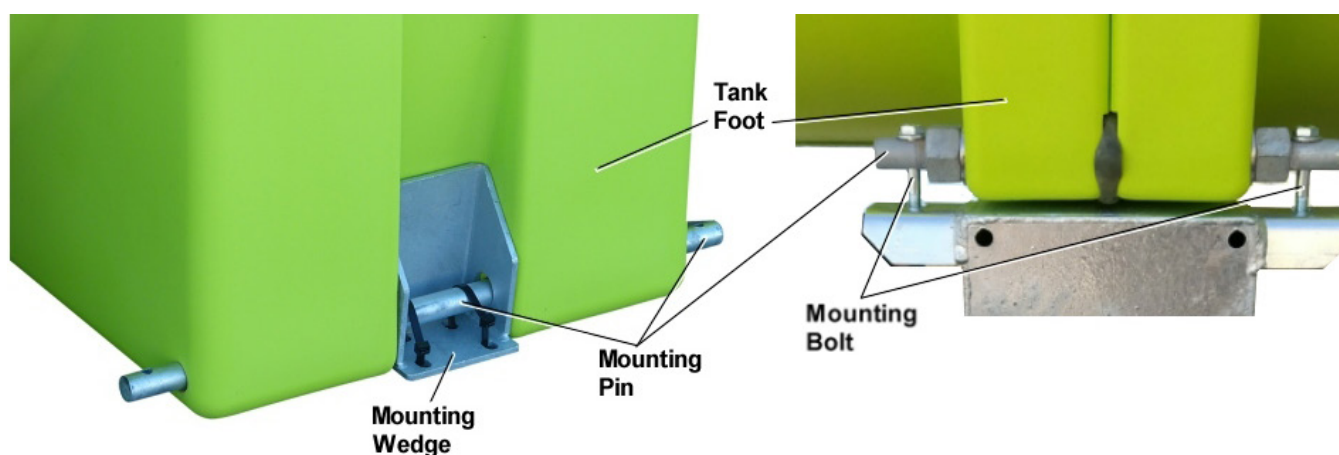

Figure 3 – TransLoc Mounting System
6. Mount the TransLoc tanks onto the vehicle, ensuring each modular unit is fully supported on a flat surface. Ensure all feet are secured correctly with the supplied mounting pins and wedges, refer to Figure 3.